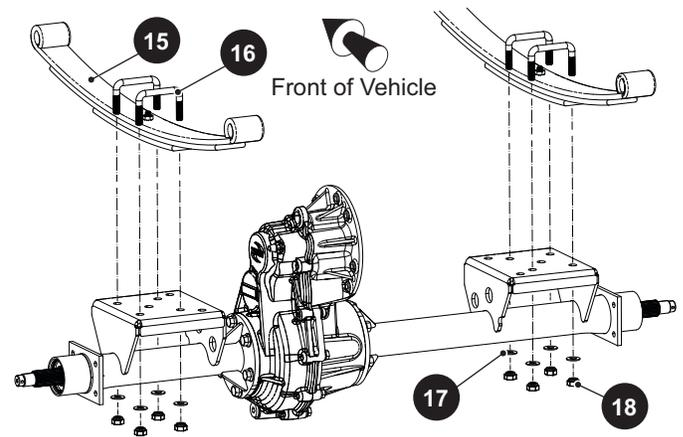

Fig. 4 Rear Axle Mounting
10. With both the rear axle and the frame supported, remove the nuts (18), washers (17) and U-bolts (16) that secure the axle to the leaf spring assembly (15) (Ref. Fig. 4).